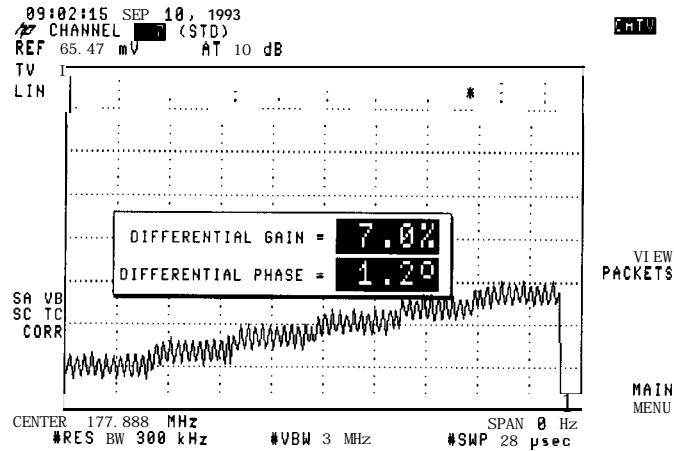

Figure 2-109. Differential Gain/Phase
11. Record the **DIFFERENTIAL PHASE** value as TR Entry 7 through 12 of the performance test record. See Figure 2-109.